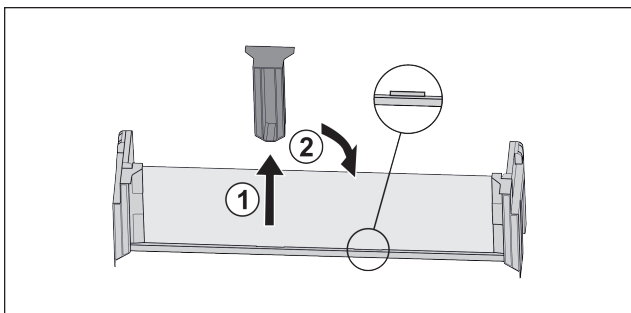

Fig. 18*
- Pull off the middle holder Fig. 18 (1).*
- Insert the middle holder in the second position Fig. 18 (2).*